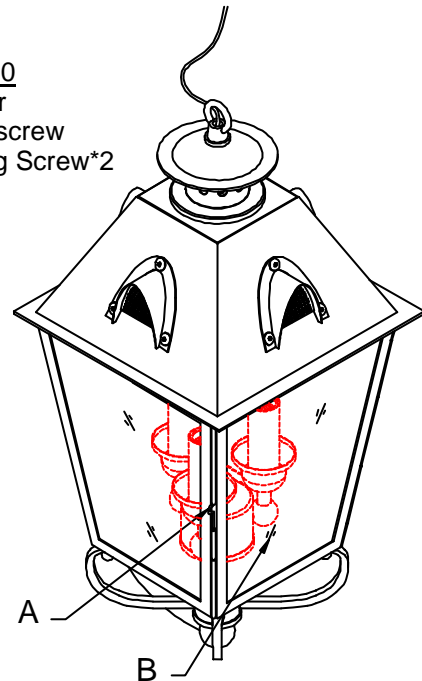

Fig.2
PREPARING FOR INSTALLATION (Fig. 2)
11. Tuck these wire connections neatly into the ceiling outlet box and then raise the canopy all the way to the ceiling. Raise the lock collar and thread onto ceiling loop protruding through canopy (Fig.2).